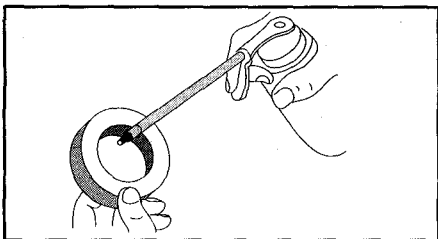

Fig. 32
4. Apply enough clean SAE 30 oil to lightly coat the filter (Fig. 32).